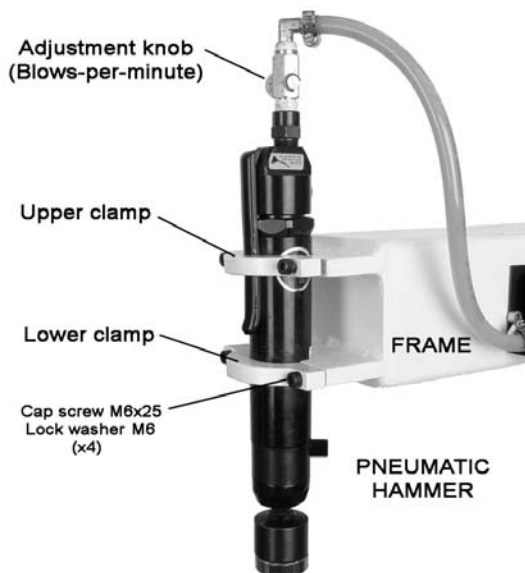

Figure 2
Referring to Figure 2:
**Note:** Planishing blows-per-minute can be adjusted by turning *adjustment knob* (see Figure 2).